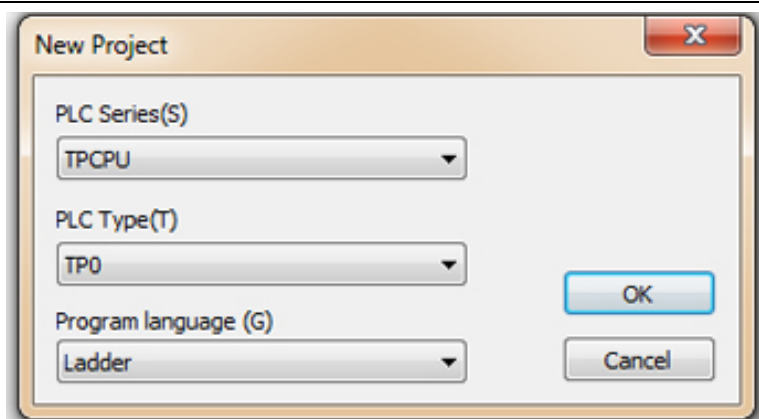

Figure 3-2
- 3) Set the parameters for new project as the Figure 3-2 shows, using TP as an example, and please click [OK] to open the main screen.